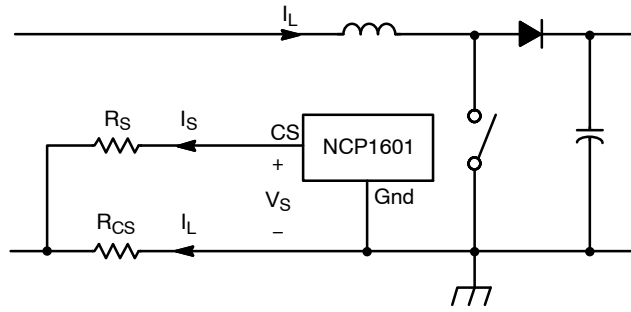

Figure 32. Current Sensing
The device senses the inductor current  $I_L$  by the current sense scheme in Figure 32. This scheme has the advantages of: (1) the inrush current limitation by the resistor  $R_{CS}$ , and (2) the overcurrent protection and zero current detection implemented in the same pin.
Inductor current  $I_L$  passes through  $R_{CS}$  and creates a negative voltage. This voltage is measured by a current  $I_S$  flowing out of the CS pin (Pin 4). The CS pin has an offset voltage  $V_S$ . This offset voltage is studied in the setting of zero inductor current  $I_{L(ZCD)}$  and the maximum inductor current  $I_{L(OC)}$  (i.e., overcurrent protection threshold). A typical variation of offset voltage  $V_S$  versus sense current  $I_S$  is shown in Figure 15. Higher the value of the offset voltage at low current region creates lower the zero current threshold for better accuracy. Based on Figure 32, (eq.13) is derived.